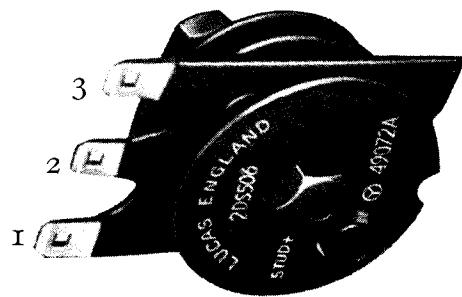
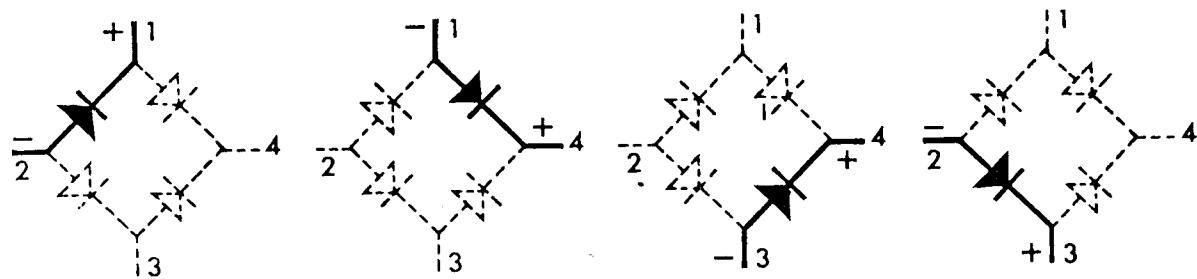

FIG. G.6. Rectifier (showing terminal connections for bench tests 1 and 2).
FIG. G.8. Rectifier test sequence for checking forward resistance and back leakage.
In Fig. G.8, the rectifier terminal markings (1), (2) and (3) are as shown physically in Figs. G.6 and G.7, while terminal (4) represents the rectifier centre bolt. (1) and (3) are the A.C. input terminals while (2) and (4) are the D.C. output terminals (—ve and +ve respectively).